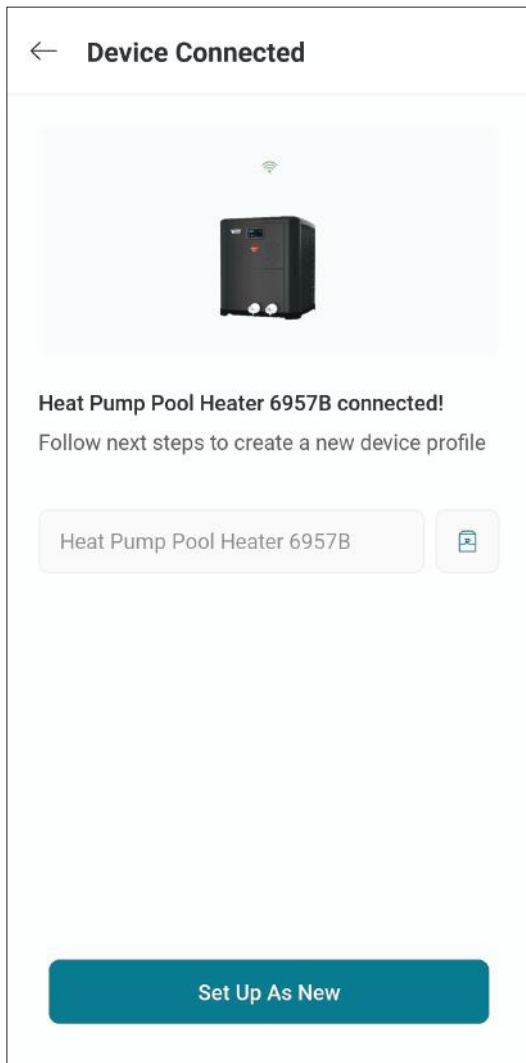

Figure 81. Name Your Unit
1. Your device is now connected to Wi-Fi. You can change the name of your device here. See Figure 81.